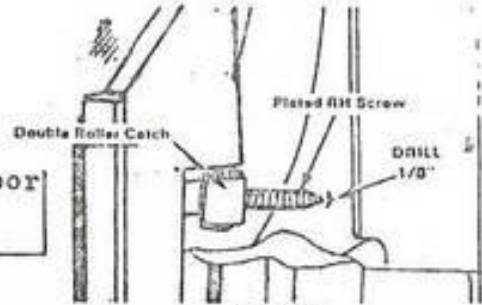

Figure 11
- 12 Place plated RH screw into double roller catch of screen door and press screen door against entrance door to mark drilling location for plated screw. On this mark drill 1/8 inch hole and install plated screw. This plated screw is for holding screen door to entrance door. Adjust so that when screen door is held against entrance door, plated screw head is just inside the rollers (See Figure 11)